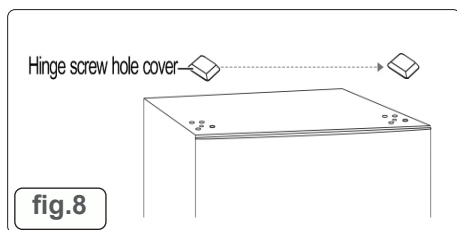

fig.8
- 9. Install the refrigerator compartment door. (fig.8).